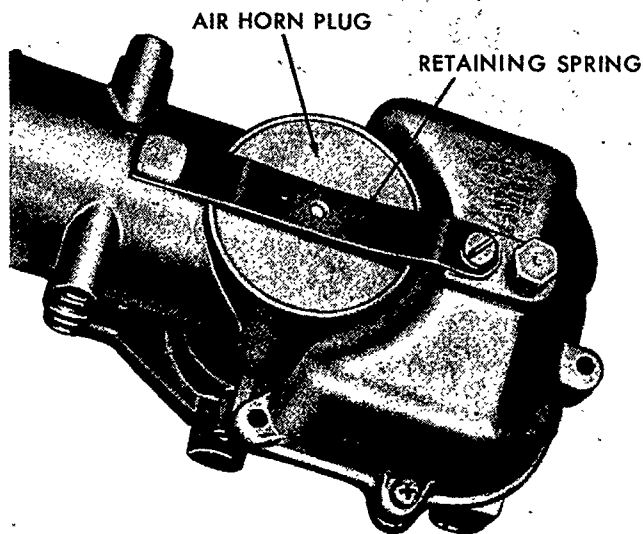

Figure 15
16. Install the air horn plug and retaining spring, Figure 15.